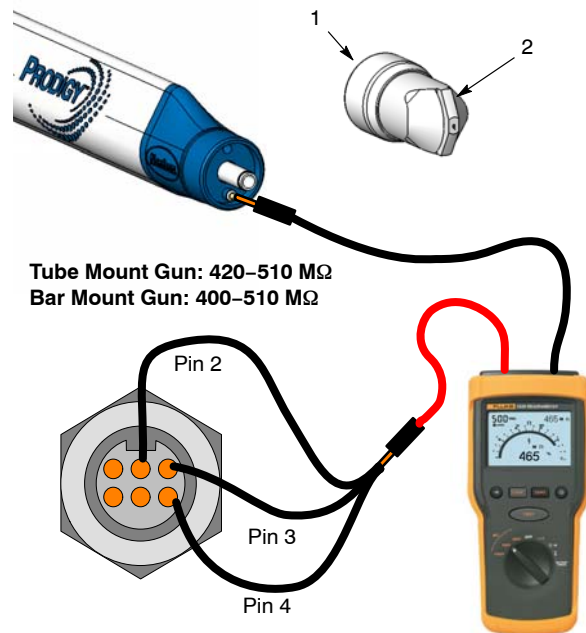

Figure 15 Multiplier/Resistor Test
1. See Figure 15. Remove the retaining nut (1) and nozzle (2).